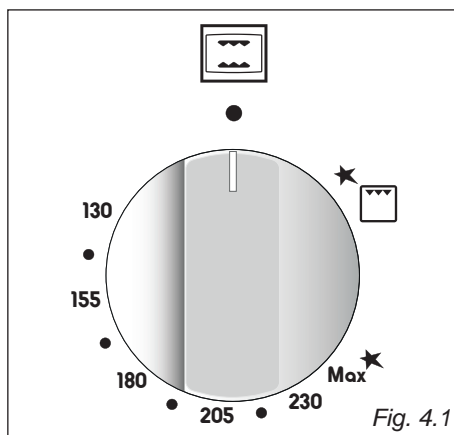
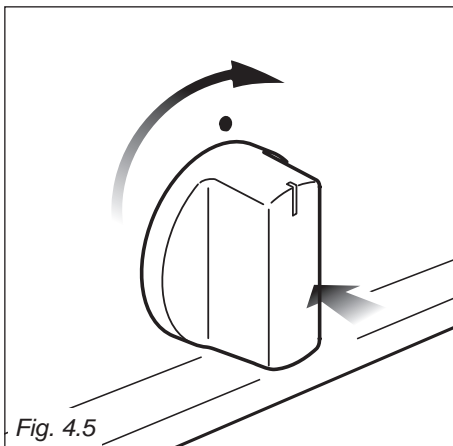

Fig. 4.1
Fig. 4.5
The numbers **130** to **Max**★ printed on the control panel (fig. 4.1) indicate the increasing oven temperature value (see table 4.2).
2. Lightly press and turn the thermostat knob anti-clockwise (fig. 4.4) to max position **Max**★ (fig. 4.1). Press the knob firmly until the burner lights.
2. Lightly press and turn the thermostat knob clockwise (fig. 4.5) to the position   (fig. 4.1).
The numbers **130** to **Max★** printed on the control panel (fig. 4.1) indicate the increasing oven temperature value (see table 4.2).